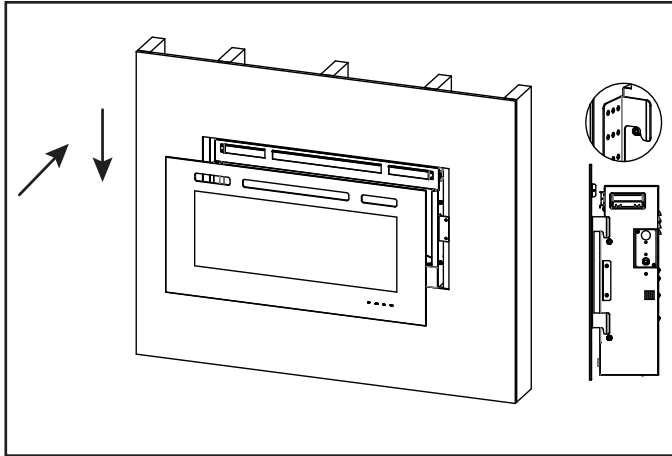

Figure 2. Glass Front Removal/Installation
3. Install front panel. Locate the J-hooks on the back side of the glass on the four shoulder bolts on the appliance opening. Engage the shoulder bolts. See Figure 2.